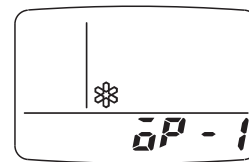

Fig. 12
- d) ❄️ appears with “oP-1” blinking in the remote controller clock display area. (Fig. 12)